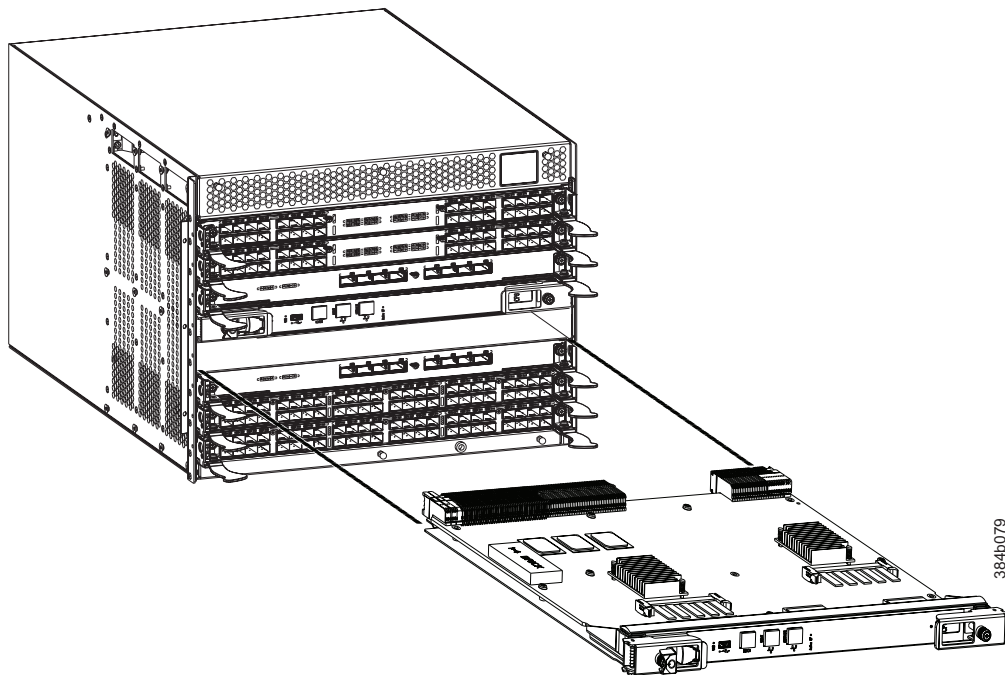

Figure 36. Removing the control processor (CP8) blade
8. Lever open both ejector handles simultaneously to approximately 45 degrees and pull the CP blade out of the chassis (see Figure 36).